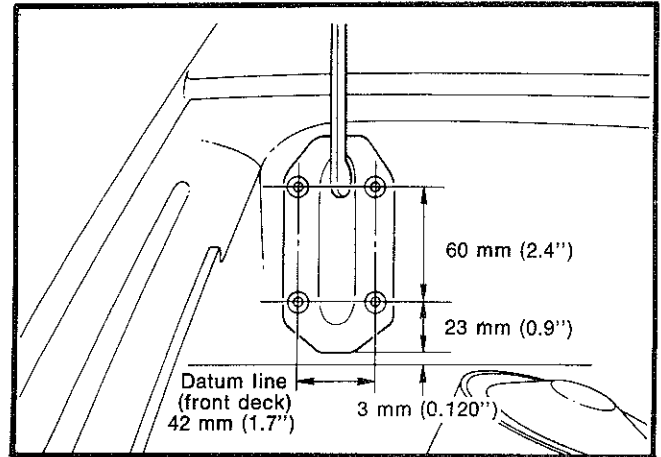

Fig. 5—Hood hinge attachment holes
(1) Drill the hood hinge spot welds with a 8 mm (5/16") drill and remove the hood hinge.
(2) Using the cowl panel to inner guard joint as a datum line, position the hinge and drill four 8 mm (5/16") holes as shown in Fig. 5.